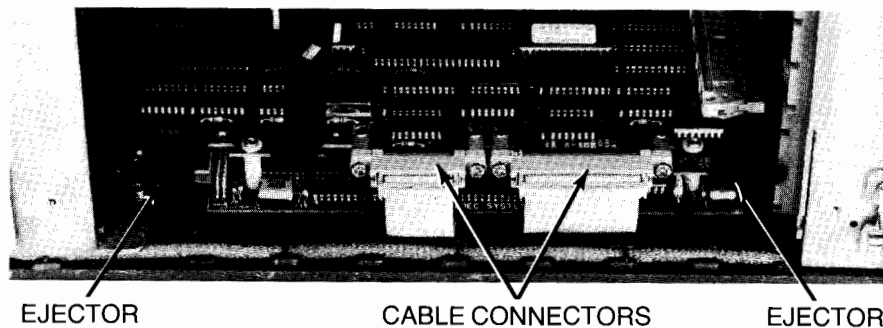

Figure 4-14. Removing Fixed Disc Drive Controller Assembly
7. Remove both cable connectors from controller assembly (Figure 4-14), unseat assembly from I/O backplane by pulling out on ejectors, and slide assembly out of slot.